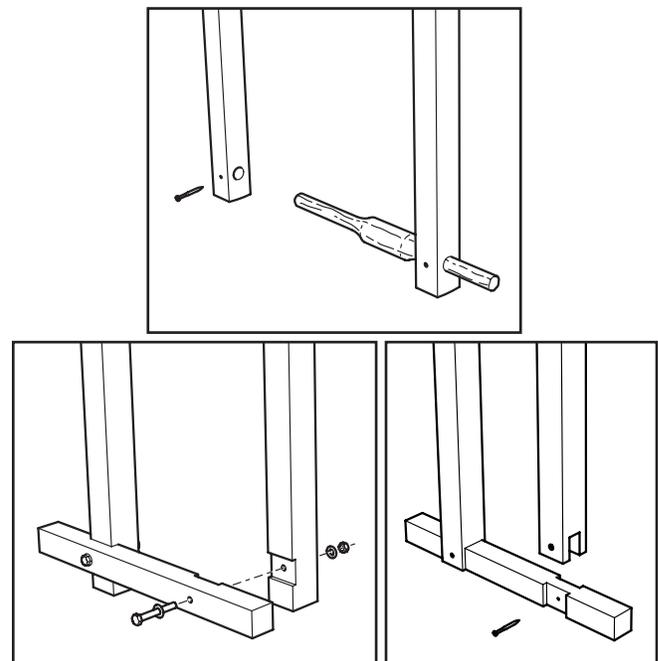

Figure 19: Foot pin alternatives.
- **Foot Pin:** This part could depart dramatically from the form shown and still work well. A few alternatives are shown in **Figure 19**.
- Clamp Pin: The clamp pin should be able to rotate but, as shown for the foot pin in **Figure 19**, it could be shaped by hand with a drawknife and spokeshave. You could start with a round piece (such as a sapling if you are making a rustic-style horse) or square. Some users prefer a square pin with a "V" groove cut into one or more of the clamping faces to help grip round workpieces.